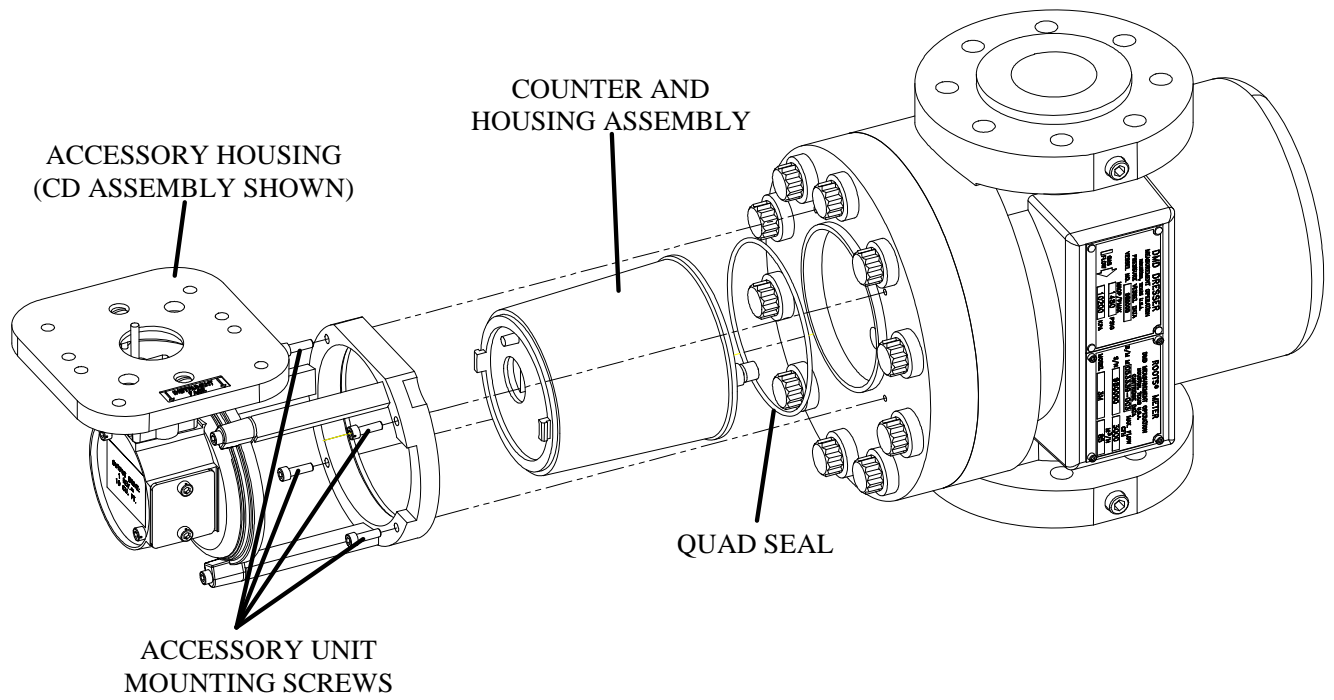

Figure 1. Accessory Housing.
2. Remove the four screws holding the accessory unit on using the 5/32" Allen wrench. Reference Figure 1. *Slowly* pull the accessory unit off the meter. Remove the O-ring. Refer to "Installing the Accessory Unit on the Meter" in the Installation, Operation and Maintenance manual for additional guidance.